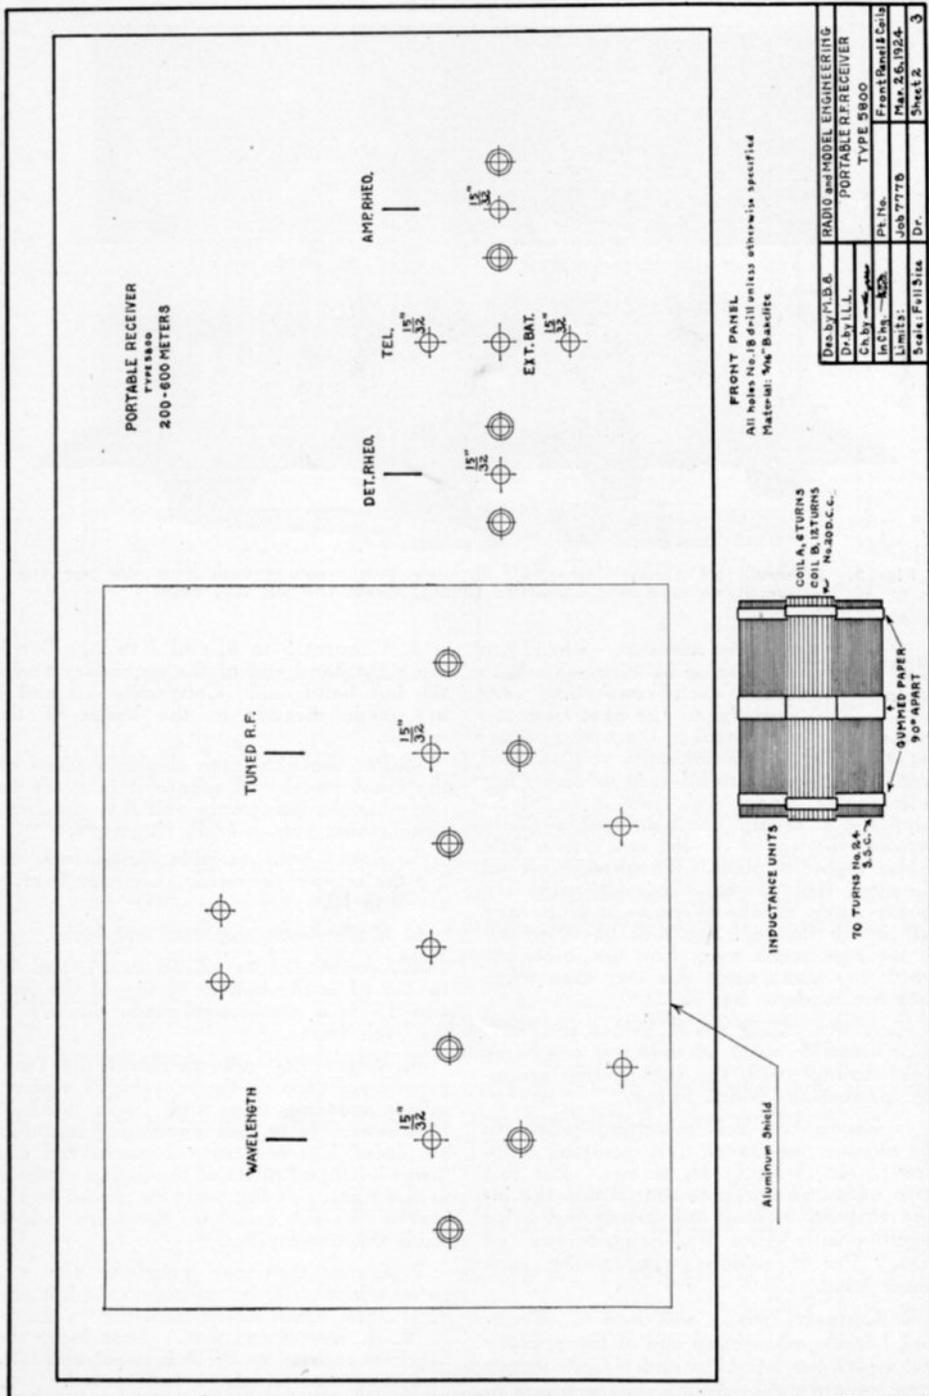

Fig. 4. One-half size drawing of the front panel and the pickle bottle coils. Note that the outline of the aluminum shield is also given.
Fig. 4 shows the front panel and shield at one-half size and Fig. 6 the rear panels and coil mounting panels. All holes are to be made with a No. 18 drill with the exception of the shaft holes and jack holes which are marked  $15/32$ -in. Concentric circles call for countersinking for flat head screws. Dimensions can be scaled off in the usual way, measuring from the outside of
The aluminum shield is of No. 20 gauge, measuring 6 ins. high by  $7\frac{1}{2}$  ins. long. The outline of it is shown in Fig. 4. It should be drilled with the same holes as the panel.
Using your knees to hold the bottle, turn the bottle slowly, moistening the strips, until 70 turns have been wound on, in accordance with the detailed drawing in Fig. 4. In that illustration the strips are shown at less than 90 degrees apart just to illustrate the method, but actually they should be distributed evenly around the coil. When you finish the 70 turns, cut off the strips at the ends near the start of the winding so that they will be a little shorter than the coil is long. Then moisten the gum and stick the strips down firmly. Cut off the strips at the other end so that they are about  $\frac{1}{2}$  in. longer than the coil, and stick them down almost to the starting end of the coil. Later on, the extra half inch lengths will be bent around inside the coil.
**W**HILE you are working on the hull, you may want to get under way some of the small fittings, too. Figs. 4 and 5 show the details of the forward section, and Fig. 6 illustrates some of the individual parts at full size. They are most interesting to make, for, from the simplest materials you can construct perfect reproductions.
In Figs. 4 and 5 you will see flagstaff and bullnose at the very bow. This is made up of a triangle of thin brass sheet,  $\frac{1}{4}$ -in. on a side, to which a  $\frac{1}{8}$ -in. length of brass tubing  $\frac{1}{8}$ -in. in diameter is soldered. In this ring a hole is drilled to take the mast stay, and another in which the flagstaff, a 1-in. length of No. 24 gauge brass wire, is soldered. A tiny bit of solder at the top serves for the ball. The complete part should be painted a battleship grey. This color, ground in japan, can be purchased in a tube. It is only necessary to thin it with turpentine.